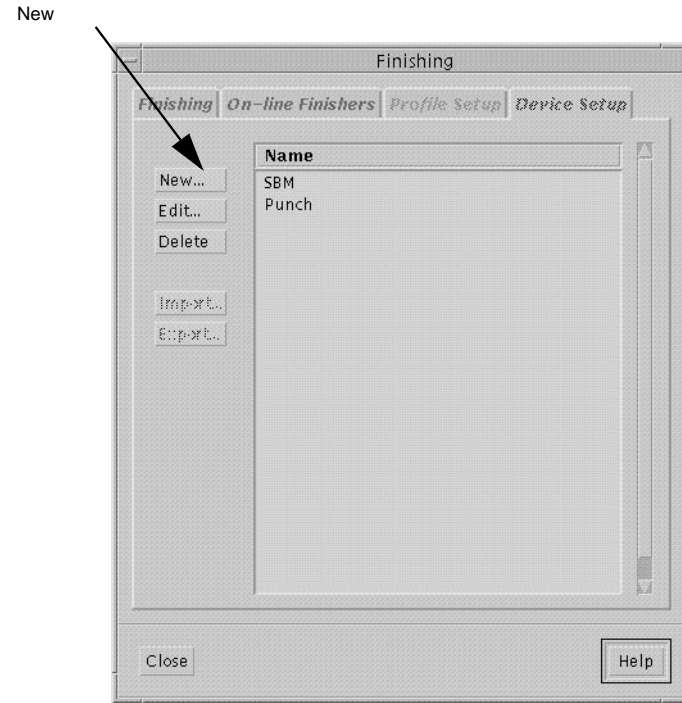

Figure 6-15 The Device Setup Tab screen
The Device Setup Tab screen will display, as shown in Figure 6-15.
4. Click on the **NEW** button, as shown in Figure 6-15.